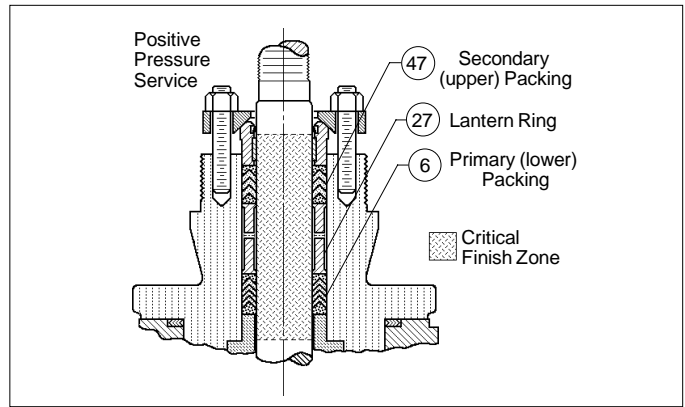

Figure 7: Dual Packing – Arr. "A", Opt-34A
1. Remove actuator assembly (AA) as described in Sub-Section IV.B. Leave body assembly (BA) in vise with stem (3) upwards.
2. Loosen stem packing (6) by further loosening packing nuts (15) to just short of disengagement from packing studs (14).
3. Remove all bonnet nuts (17).
4. Lift bonnet (2), stem assembly (3), cage (10) and all packing zone parts up and out of the body (1) while holding stem (3) to prevent from falling. Set horizontally on a workbench. **NOTE:** *Seat ring (11) (and seat retainer (23) and soft seat insert (24) for composition/soft seated designs) may also pull out with the above parts assembly.*
5. Remove both stem nuts (17).
6. Withdraw stem assembly (3) from within the bonnet (2) and packing (6), holding cage (10) to prevent from dropping. Set parts (3, 10) aside.
7. Place the bonnet (2) into a second vise with the packing zone on top.
8. Remove the two packing nuts (15).
9. Remove the packing flange (4), packing follower (5), wiper ring (22) and TFE bias tape follower bushing (26).
10. Using a sharp, hooked-end, pick-type tool, hook and pull the packing rings (47) up and out of the bonnet's (2) stuffing box individually. Examine for proper orientation (see Figures 7, 8, 9 and 10).
11. Remove bonnet (2) from vise and invert to allow lantern ring (27) or packing spacer (9) to slide out of the bonnet's (2) stuffing box.
- a. Invert bonnet (2) again and place back in vise with packing zone on top.
- b. Using a sharp, hooked-end, pick-type tool, hook and pull the primary lower packing ring set (6) up and out of the bonnet's (2) stuffing box individually. Examine for proper orientation (see Figures 7, 8 and 9).
- b. Place packing spacer (9) over end of stem (3) and carefully lower into stuffing box.
- c. Carefully place lower adapter (6.3) of packing ring set (6) over stem's (3) end, properly oriented. Using the packing follower (5), push the lower adapter into the bonnet's (2) stuffing box.
- d. Carefully place a packing ring (6.2) properly oriented over the stem's (3) end and push into the stuffing box similar to the adapter (6.3). Repeat for each of the four rings (6.2).
- a. Make reference to Figures 7, 8 or 9 for proper packing orientation. (Opt-34A, Opt-34B or Opt-34C).
- b. Carefully install correct adapter of lower packing ring set (6) over stem's (3) end, properly oriented. Using the lantern ring (27) and packing follower (5), push the adapter into the bonnet's (2) stuffing box.
- c. Carefully place a packing ring properly oriented over the stem's (3) end and push into the stuff-
- d. Carefully install correct adapter of packing ring set (6) over stem's (3) end, properly oriented and push into the stuffing box as per previous step. Leave lantern ring (27) in position in stuffing box.
- e. Carefully install correct adapter of secondary packing ring set (47) over stem's (3) end, properly oriented. Using the packing follower (5), push the adapter into the bonnet's (2) stuffing box.
- f. Carefully place a packing ring, properly oriented, over stem's (3) end and push into the stuffing box similar to Step e. previous. Repeat for each of the **three** rings.
- g. Carefully install correct adapter of packing ring set (47) over stem's (3) end, properly oriented, and push into the stuffing box similar to Step f. previous.
30. Place packing follower (5) with new wiper ring (22) and new follower bushing (26) tape over the end of the stem (3).
31. Place packing flange (4) over end of stem (3) and over packing studs (14).
32. Install both packing nuts (15), finger-tight, down to the packing flange (4).